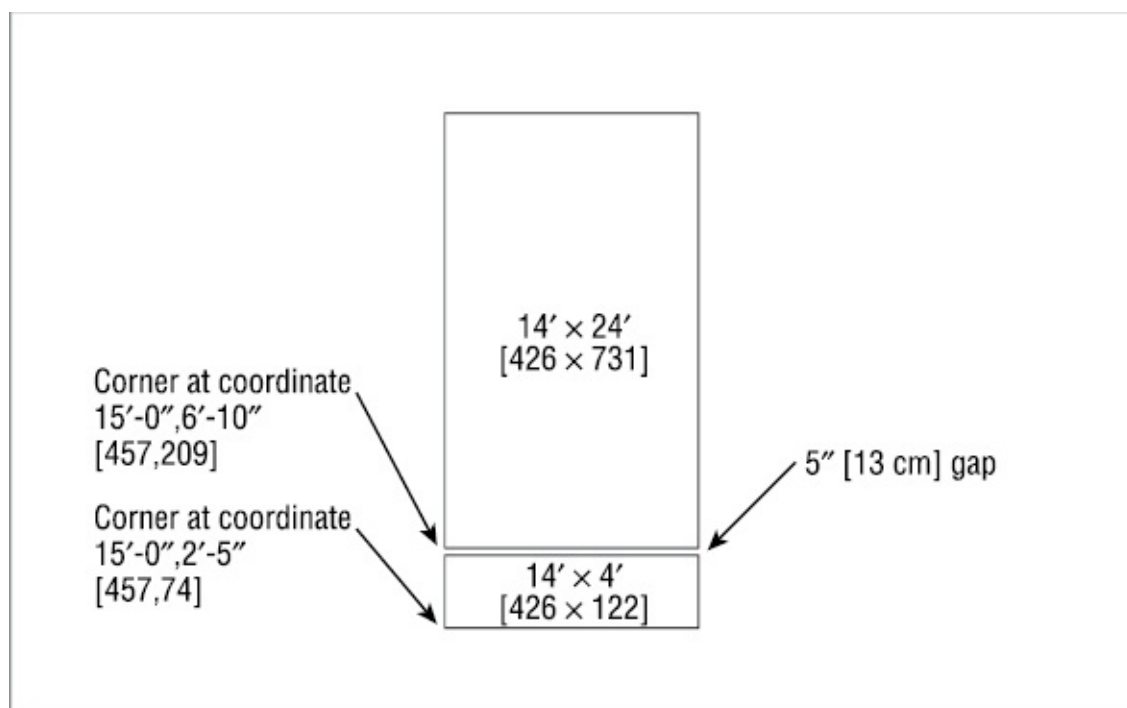

FIGURE 6.17 The apartment unit interior and balcony. Metric locations and dimensions are shown in brackets.
1. Begin the unit by drawing two rectangles, one 14' long by 24' wide and the other 14' long by 4' wide. Metric users should make the rectangles 426 cm long by 731 cm wide and 426 cm long by 122 cm wide. For the first rectangle, click the Rectangle tool in the Home tab's Draw panel, enter the coordinate for the lower-left corner as shown in Figure 6.17, and then enter **@14',24' ↵**. Metric users should enter **@426,731 ↵**. Repeat the process using the coordinates for the second, smaller rectangle.
The rectangles should be placed as shown in Figure 6.17. The large rectangle represents the interior of the apartment unit, and the small rectangle represents the balcony. The size and location of the rectangles are indicated in the figure.